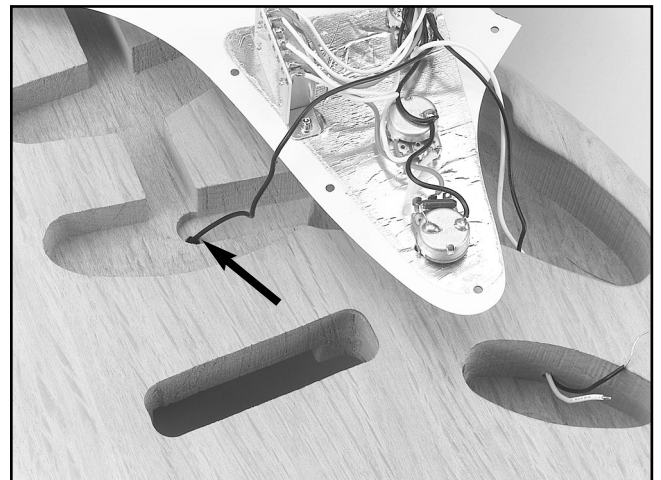

Figure 16. Pick guard wire.
- Push the remaining black wire through the hole shown in **Figure 16**.